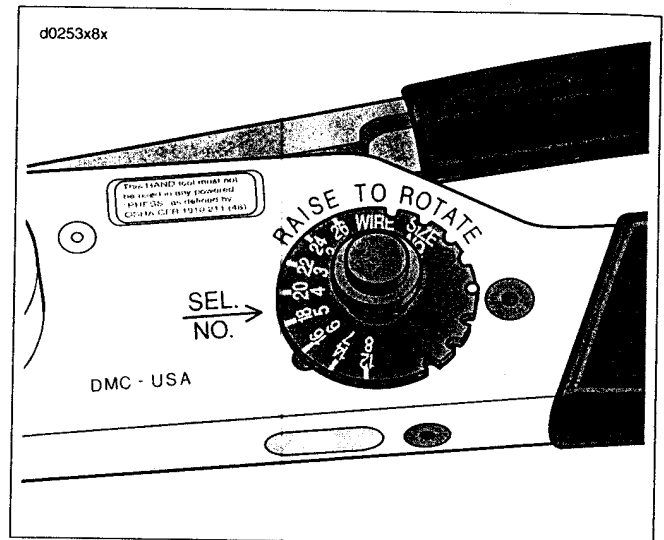

Figure B-15. Selector Knob
3. See Figure B-15. Raise selector knob and rotate until selected wire size stamped on wheel is aligned with "SEL. NO." arrow.